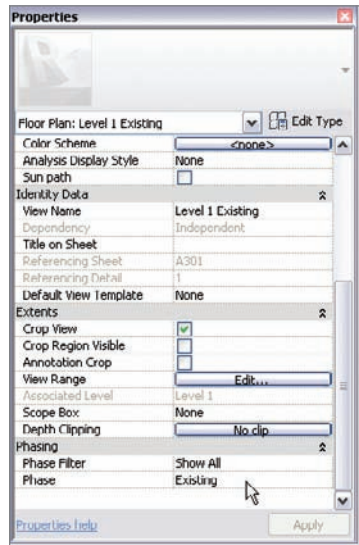

FIGURE 21.7 Changing Phase to Existing
3. Change Phase to Existing (see Figure 21.7).